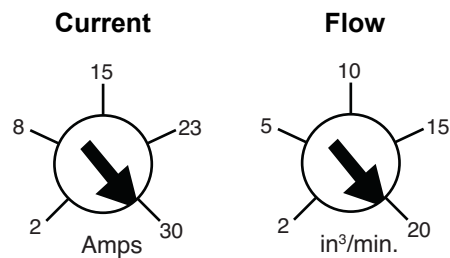

**FIG. 10**
1. Remove screws (a), cover (b) and gasket (c) to access the control board (FIG. 10).